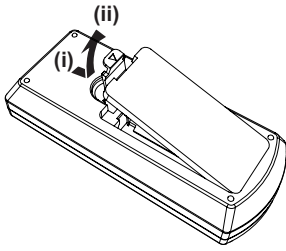

Fig.1
- 1) **Open the cover. (Fig. 1)**